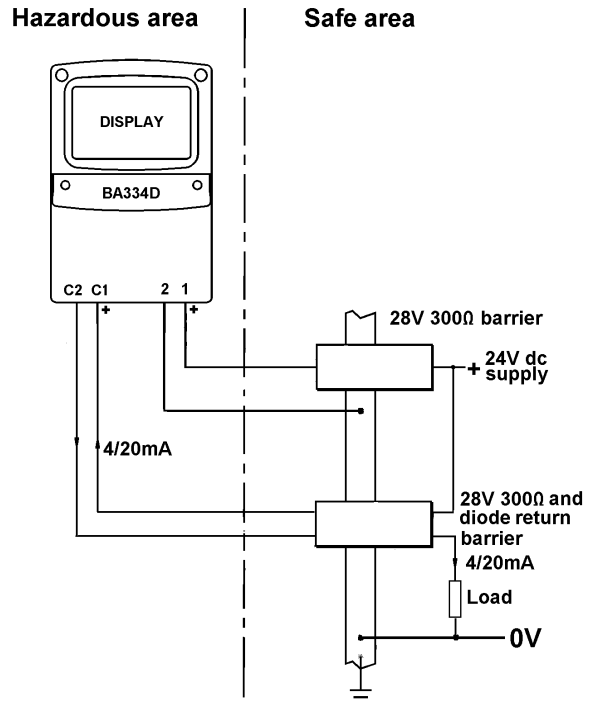

Fig 18 Application of 4/20mA output
**Note 2:** If the BA334D and the 4/20mA current sink output are powered from separate supplies, the 4/20mA output current will continue to flow when the BA334D supply fails or is turned off. Powering both from a common supply as shown in Fig 18 eliminates this effect.